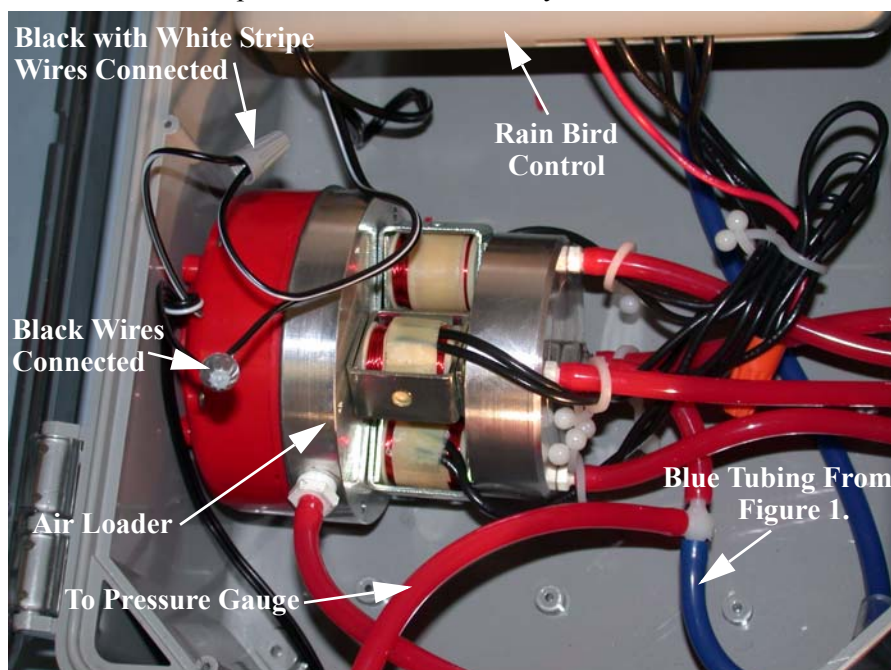

Figure 2. All Connected
- Disconnect the red tubing at the tee that comes from the air compressor. In figure 2 the blue tubing was the location of this red tubing. **See Figure2.**
8. Connect the blue tubing to the tee to supply air for the air loader and incoming pressure gauge. **See Figure2.**